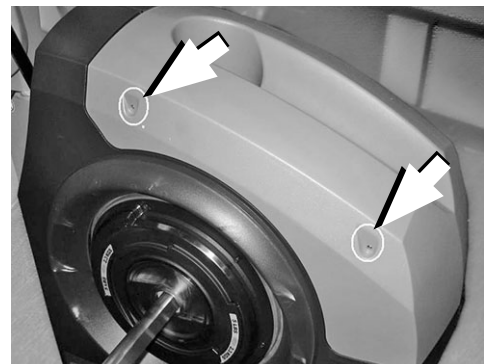

Figure 1-1
1-1 Use a 1/8" hex key to remove the 4 hex screws securing the top cover (see Figure 1-1). Set hex screws and top cover aside.
- 3-5** Replace the top cover. Use a 1/8" hex key and the 4 hex screws removed in step 1-1 to secure the top cover (see Figure 1-1).